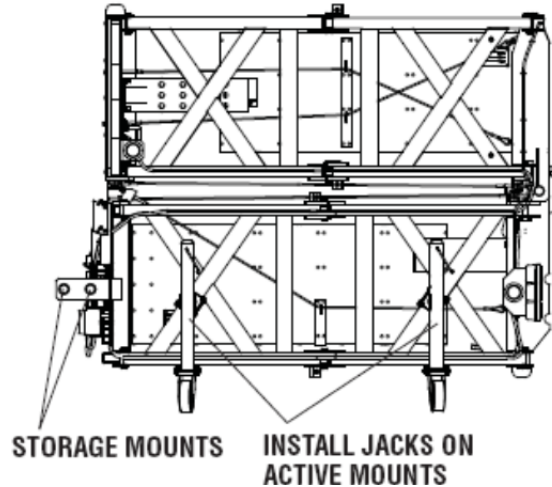

Figure 24
- B. Remove the Jacks from the storage location and assemble them on the Active Mounts as shown in Figures 24 & 25.